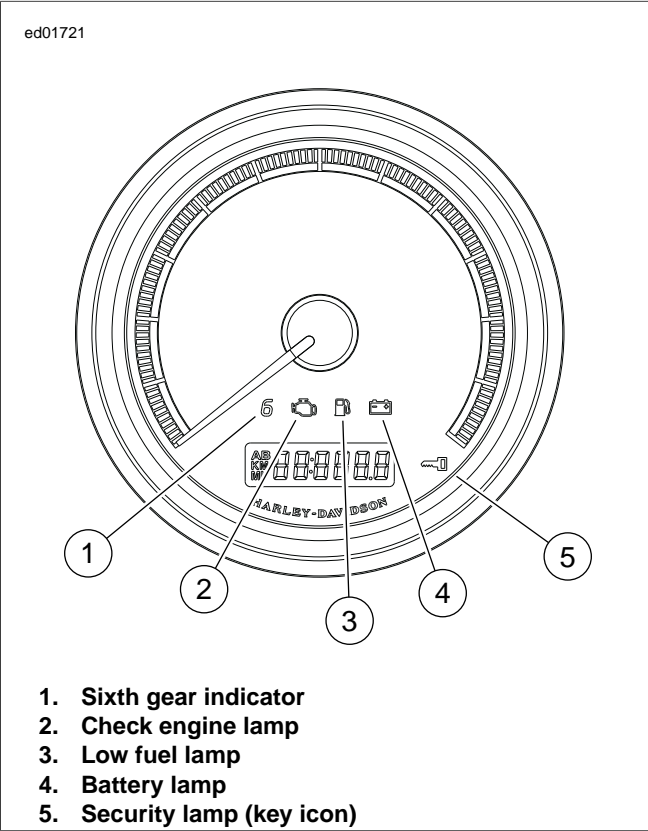

Figure 5-18. Indicator Lamps (Typical)
See Figure 5-18. The security lamp (key icon) in the instrument face provides feedback to the rider confirming armed or disarmed status. Refer to Table 5-22.
- **Security lamp:** See Figure 5-18. The security lamp (key icon) tells the rider if the system is armed or disarmed.